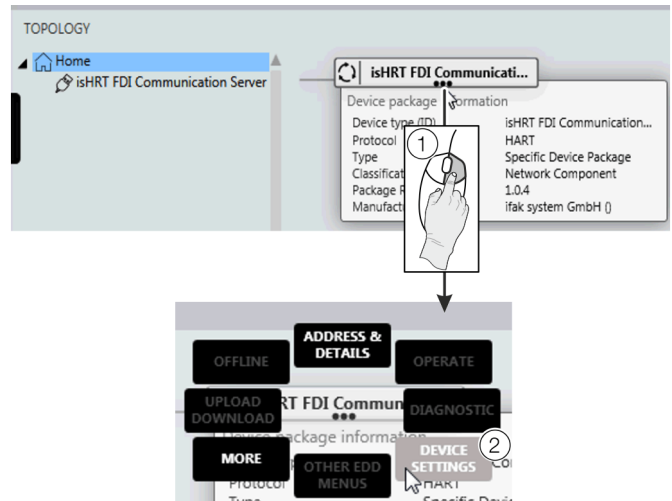

Figure 77: Select FIM – ‘Device Settings’
6. Right-click ① as shown in **Figure 77**.
7. Select ‘DEVICE SETTINGS’ ② as shown in **Figure 77**.